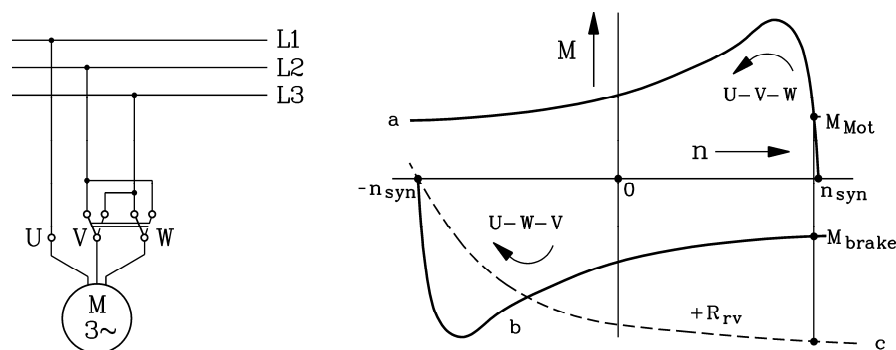
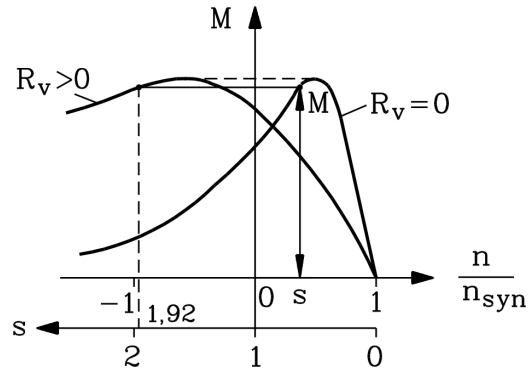

Fig. 2.9-1: Counter-current braking by exchanging of two motor terminals (dashed: with external rotor resistance  $R_{rv}$ )
Fig. 2.9-2: Shearing of torque-speed characteristic due to external rotor  $R_v$
- 4) Counter-current braking (Fig. 2.9-1) at:  $n = 0.95 \cdot n_N = 0.95 \cdot (1 - s_N) \cdot n_{syn} = 0.92 \cdot n_{syn}$
Determination of braking torque according to Fig. 2.9-1 with consideration of external rotor resistance (Fig. 2.9-2):